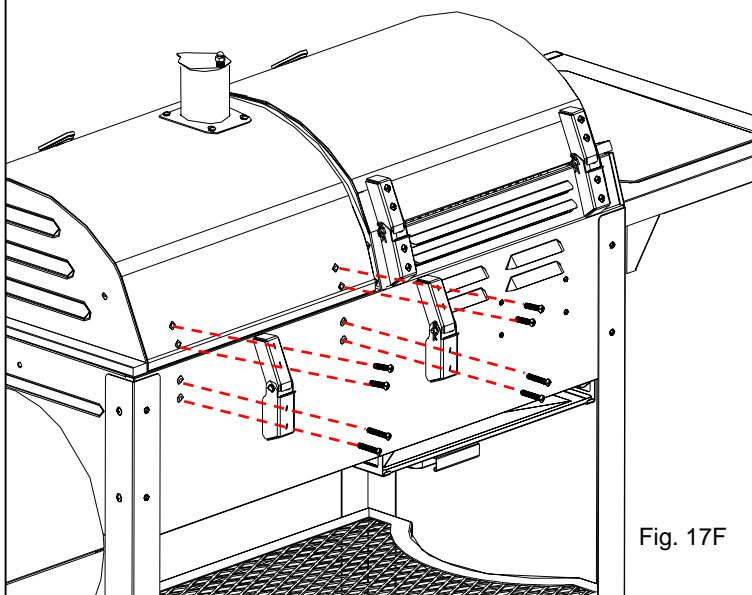

Fig. 17F
Refer to Fig. 17F, attach Charcoal Grill Cabinet and Lid with (2) Hinge Assemblies using (8) M6X35 Bolts as shown.